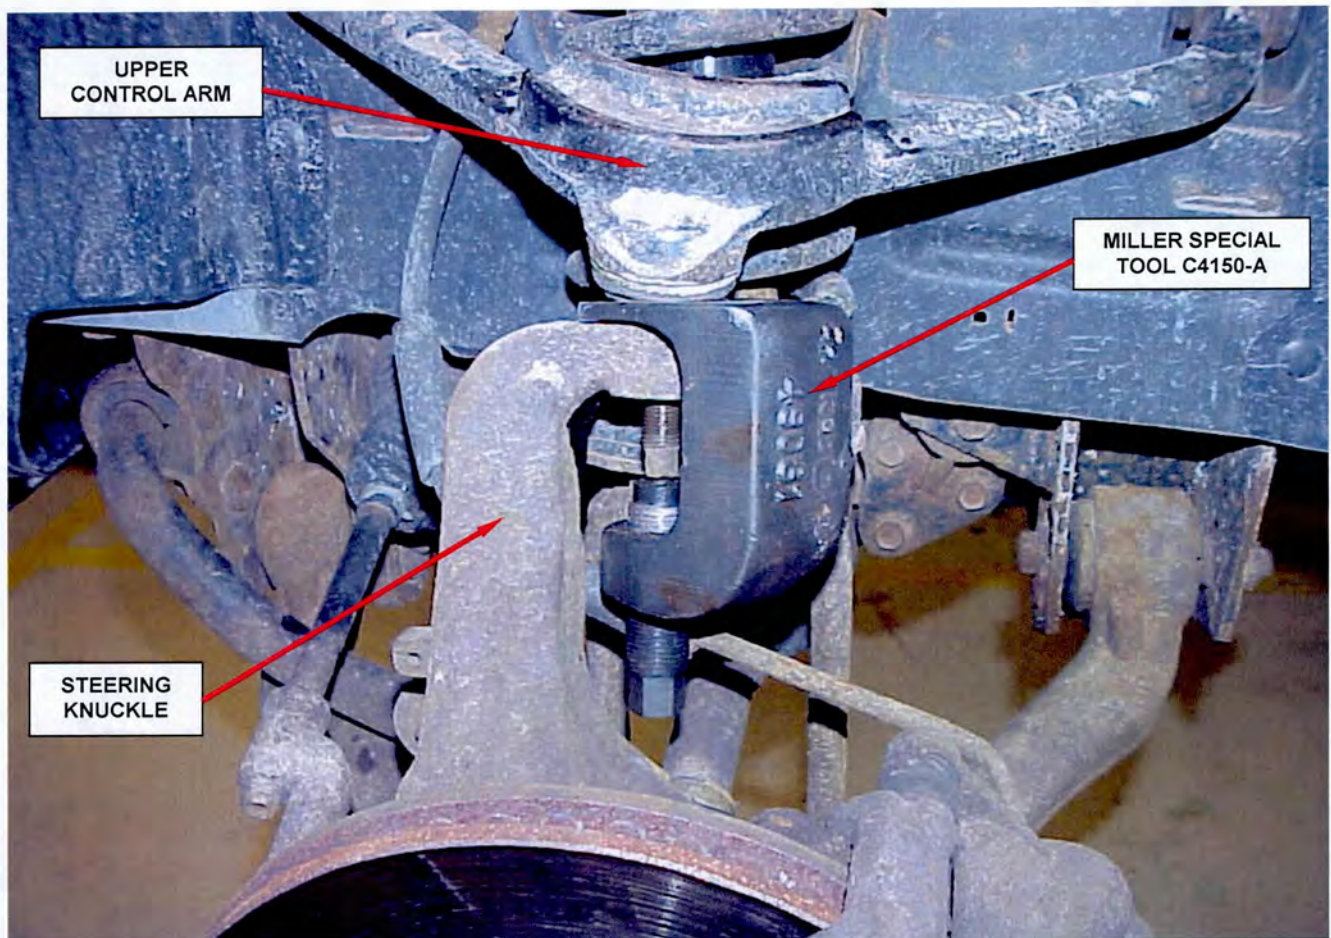

Figure 5 – Separate Ball Joint from Steering Knuckle
13. Separate the right and left upper ball joint from the right and left steering knuckle using tool C-4150A (Figure 5).